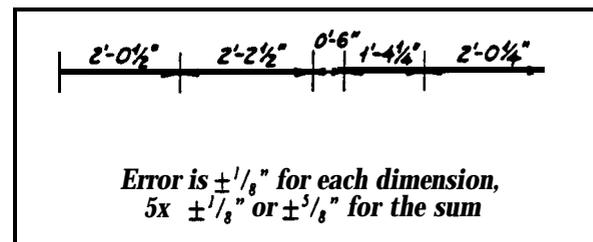

Fig. 4.13
• **Additive measurements.** Additive measurements are “chained”—each succeeding measurement begins where the last one ended (see Fig. 4.13). Grouped and overall measurements are obtained by adding individual measurements. While this method reduces a lot of measurements to a size that an unassisted person can make with a tape, tolerances/errors accumulate. If you add six measurements, each with a $\pm 1/8$ " tolerance, the sum has a tolerance of $6 \times \pm 1/8$ " or $\pm 3/4$ ". Adding dimensions with different tolerances gives a total with a final tolerance that is the sum of all the individual tolerances, regardless of their size. In the end, reasonably careful measuring leaves you with an unreasonable amount of error. (For example, individually measuring the widths of fifty successive floorboards in a mill to $\pm 1/16$ " will leave a final tolerance of $\pm 3 1/8$ "!) You may also make errors summing fractions, and a recording error in one measurement affects the total.